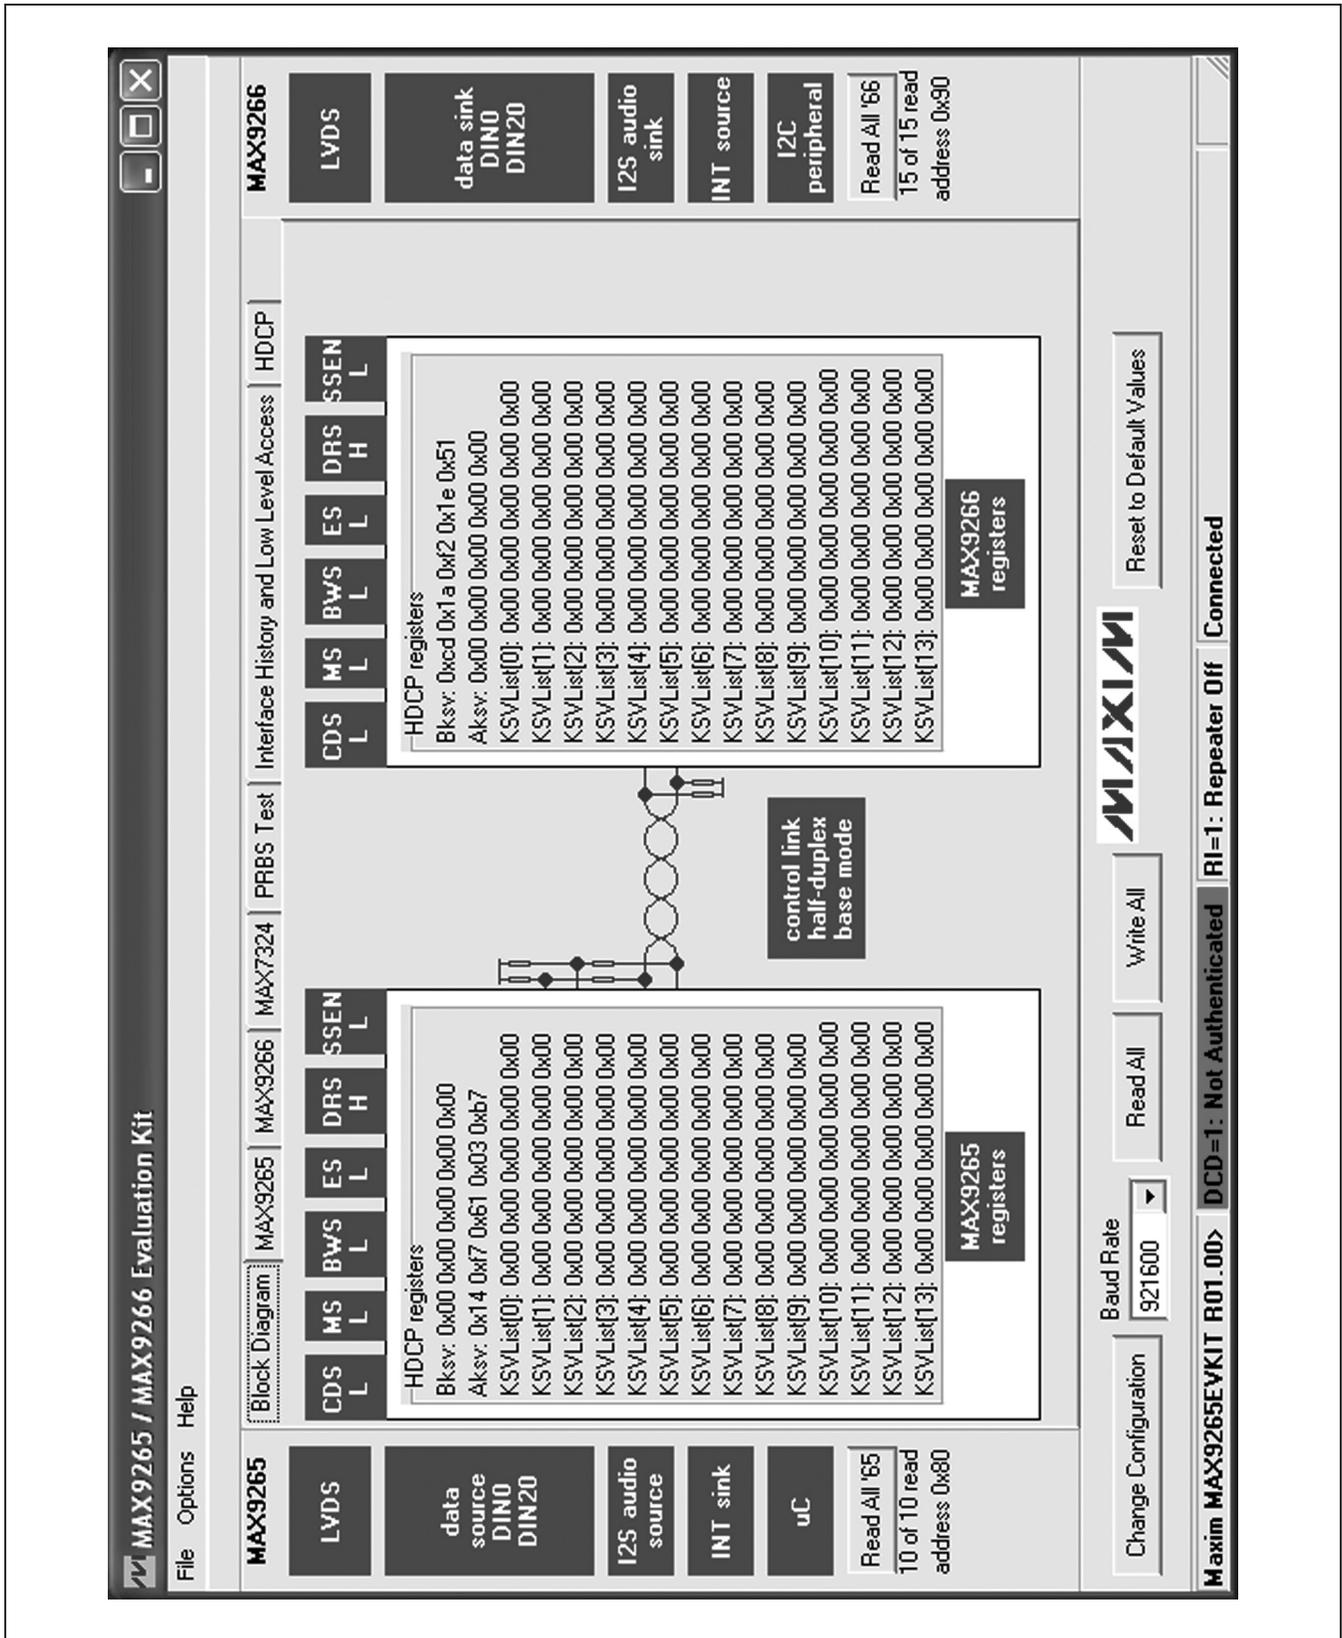

Figure 1. MAX9265/MAX9266 EV Kit Software Main Window (Block Diagram Tab)
- 15.4) The EV kit software main window appears, as shown in Figure 1. When using the repeater firmware, the EV kit software tries to read the registers while the repeater firmware is busy authenticating the display, so initially the Figure 1 window may show failed reads. *This is not an error.*
The main window of the evaluation software (Figure 1) shows a block diagram representing the MAX9265/MAX9266 system. The left column shows the MAX9265 input data sources and the right column shows the MAX9266 output data sinks.